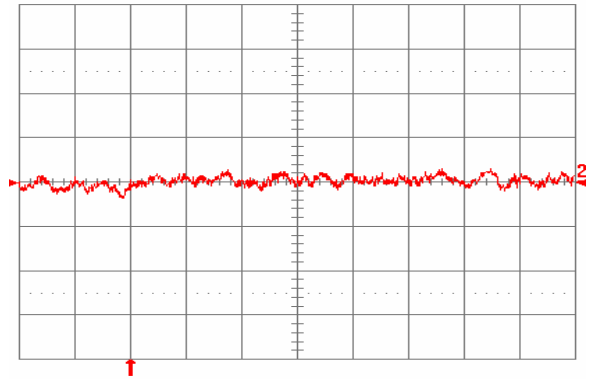

**Fig. 8.0V.14:** Test Setup for measuring input reflected ripple currents,  $i_c$  and  $i_s$ .
**Fig. 8.0V.1:** Available load current vs. ambient air temperature and airflow rates for SQ48T05080 converter with D height pins mounted vertically with  $V_{in} = 48\text{ V}$ , air flowing from pin 3 to pin 1, and maximum FET temperature  $\leq 120^\circ\text{C}$ .
**Fig. 8.0V.2:** Available load current vs. ambient air temperature and airflow rates for SQ48T05080 converter with D height pins mounted horizontally with  $V_{in} = 48\text{ V}$ , air flowing from pin 3 to pin 1, and maximum FET temperature  $\leq 120^\circ\text{C}$ .
**Fig. 8.0V.3:** Available load current vs. ambient air temperature and airflow rates for SQ48S05080 converter mounted vertically with  $V_{in} = 48\text{ V}$ , air flowing from pin 3 to pin 1, and maximum FET temperature  $\leq 120\text{ }^{\circ}\text{C}$ .
**Fig. 8.0V.4:** Available load current vs. ambient air temperature and airflow rates for SQ48S05080 converter mounted horizontally with  $V_{in} = 48\text{ V}$ , air flowing from pin 3 to pin 1, and maximum FET temperature  $\leq 120\text{ }^{\circ}\text{C}$ .
**Fig. 8.0V.5:** Efficiency vs. load current and input voltage for SQ48T/S05080 converter mounted vertically with air flowing from pin 3 to pin 1 at a rate of 300 LFM (1.5 m/s) and  $T_a = 25\text{ }^{\circ}\text{C}$ .
**Fig. 8.0V.6:** Efficiency vs. load current and ambient temperature for SQ48T/S05080 converter mounted vertically with  $V_{in} = 48\text{ V}$  and air flowing from pin 3 to pin 1 at a rate of 200 LFM (1.0 m/s).
**Fig. 8.0V.7:** Power dissipation vs. load current and input voltage for SQ48T/S05080 converter mounted vertically with air flowing from pin 3 to pin 1 at a rate of 300 LFM (1.5 m/s) and  $T_a = 25^\circ\text{C}$ .
**Fig. 8.0V.8:** Power dissipation vs. load current and ambient temperature for SQ48T/S05080 converter mounted vertically with  $V_{in} = 48\text{ V}$  and air flowing from pin 3 to pin 1 at a rate of 200 LFM (1.0 m/s).
**Fig. 8.0V.9:** Turn-on transient at full rated load current (resistive) with no output capacitor at  $V_{in} = 48\text{ V}$ , triggered via ON/OFF pin. Top trace: ON/OFF signal (5 V/div.). Bottom trace: output voltage (2 V/div.). Time scale: 1 ms/div.
**Fig. 8.0V.10:** Turn-on transient at full rated load current (resistive) plus 2,200  $\mu\text{F}$  at  $V_{in} = 48\text{ V}$ , triggered via ON/OFF pin. Top trace: ON/OFF signal (5 V/div.). Bottom trace: output voltage (2 V/div.). Time scale: 2 ms/div.
**Fig. 8.0V.11:** Output voltage response to load current step-change (1.325 A – 2.65 A – 1.325 A) at  $V_{in} = 48$  V. Top trace: output voltage (200 mV/div.). Bottom trace: load current (1 A/div.). Current slew rate: 0.1 A/ $\mu$ s.  $C_o = 1$   $\mu$ F ceramic. Time scale: 0.5 ms/div.
**Fig. 8.0V.12:** Output voltage response to load current step-change (1.325 A – 2.65 A – 1.325 A) at  $V_{in} = 48$  V. Top trace: output voltage (200 mV/div.). Bottom trace: load current (1 A/div.). Current slew rate: 5 A/ $\mu$ s.  $C_o = 94$   $\mu$ F tantalum + 1  $\mu$ F ceramic. Time scale: 0.5 ms/div.
**Fig. 8.0V.13:** Output voltage ripple (50 mV/div.) at full rated load current into a resistive load with  $C_o = 10$   $\mu$ F tantalum + 1  $\mu$ F ceramic and  $V_{in} = 48$  V. Time scale: 1  $\mu$ s/div.
**Fig. 8.0V.15:** Input reflected ripple current,  $i_c$  (100 mA/div.), measured at input terminals at full rated load current and  $V_{in} = 48$  V. Refer to Fig. 8.0V.14 for test setup. Time scale: 1  $\mu$ s/div.
**Fig. 8.0V.16:** Input reflected ripple current,  $i_s$  (10 mA/div.), measured through 10  $\mu$ H at the source at full rated load current and  $V_{in} = 48$  V. Refer to Fig. 8.0V.14 for test setup. Time scale: 1  $\mu$ s/div.
**Fig. 8.0V.17:** Output voltage vs. load current showing current limit point and converter shutdown point. Input voltage has almost no effect on current limit characteristic.
**Fig. 8.0V.18:** Load current (top trace, 5 A/div., 20 ms/div.) into a 10 m $\Omega$  short circuit during restart, at  $V_{in} = 48$  V. Bottom trace (5 A/div., 1 ms/div.) is an expansion of the on-time portion of the top trace.